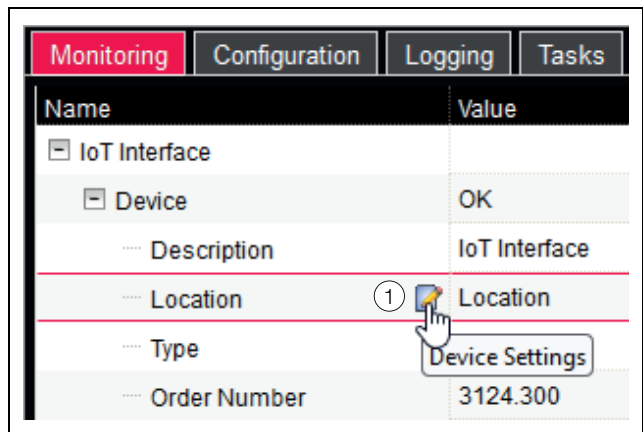

Fig. 23: Editable parameter with "edit" symbol
For all parameters that can be changed, an "edit" symbol in the form of a stylised notebook with pencil appears behind the associated parameter when you place the mouse cursor in the appropriate row (fig. 23, item 1).